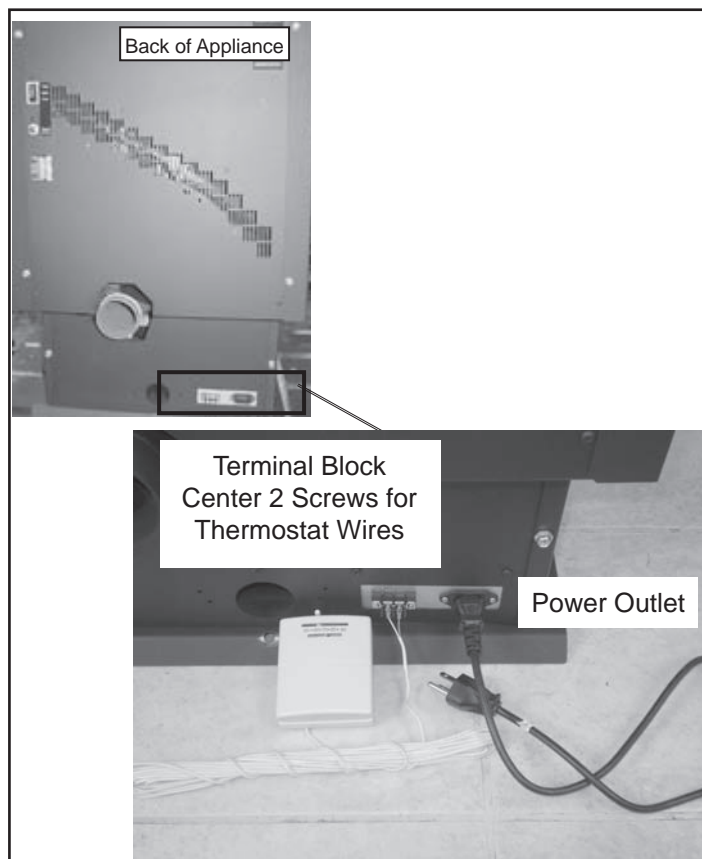

Figure 40.1
3. There is a 4 screw terminal block located on the back lower left corner of the stove directly above the power cord inlet. The center 2 screws are for the thermostat wires. **Figure 40.1.**